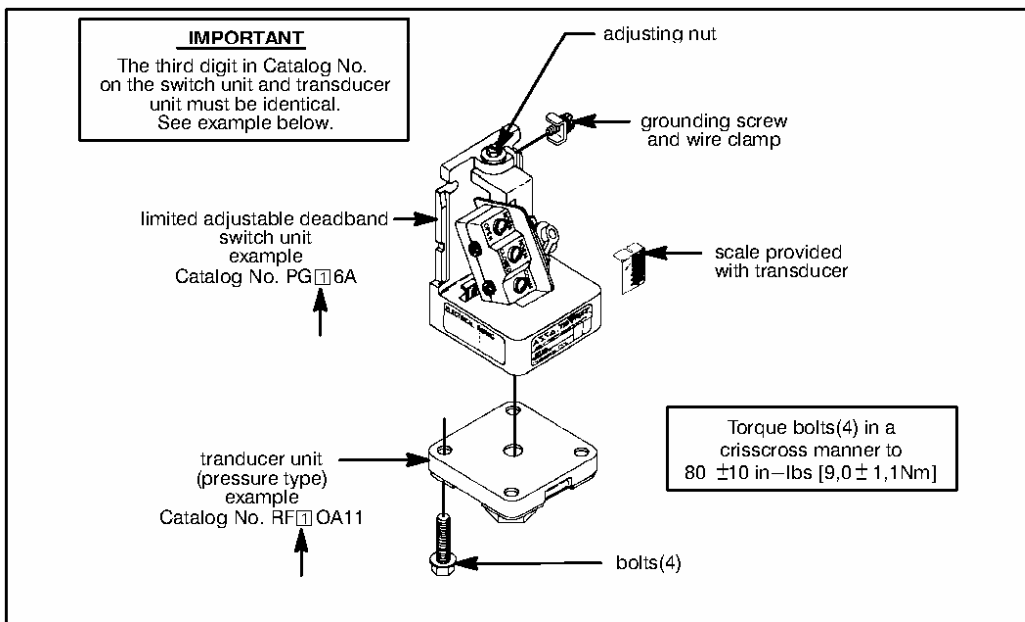

Figure 6. Open-Frame Switch Unit and Transducer Unit to be assembled.
**Assembly Of Switch And Transducer Units** (Refer to Figure 6)
Pay careful attention to exploded view provided in Figure 6 for assembly of switch unit and transducer unit. Proceed in the following manner:
When facing switch with the switch in the upright position, the adjusting nut on the top adjusts the signal setting (set point increasing). The knob in the front center of the switch adjusts the deadband (set point decreasing) refer to Figure 6. To make adjustments, a 1/4" wrench or screwdriver is required. A pressure or temperature gage (within suitable range) is also required.